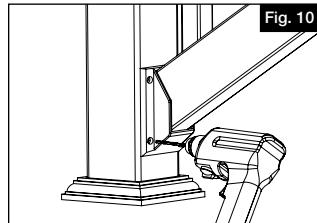

Fig. 10
- b. Push all balusters into bottom rail (Fig.10).
Center your bracket on the post. Using the holes in the bracket as a guide, pre-drill one of the holes with an $\frac{1}{8}$ " drill bit (Fig 10). Drive one of the #10 x 1 $\frac{1}{4}$ " self tapping square drive screws into the bracket (Fig 11). Pre-drill the remaining 3 holes and drive the 1 $\frac{1}{4}$ " screws into the remaining 3 holes being careful not to overtighten. Repeat this at the top and bottom of the stairs.